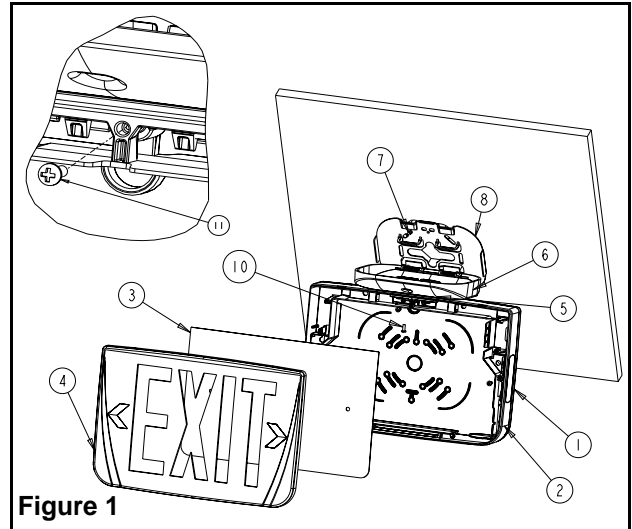
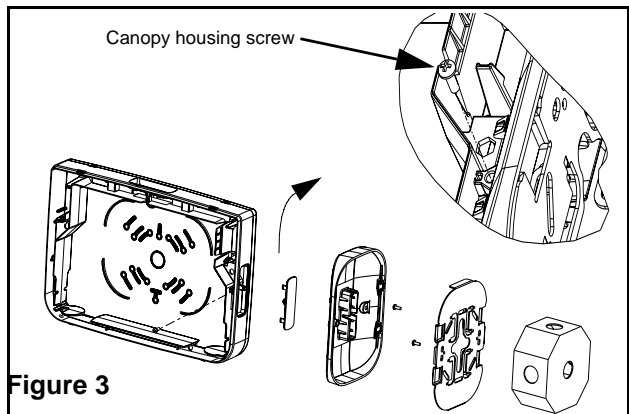

Figure 1
Figure 3
- a. Canopy required. Attach the spider plate to electrical box with the junction box screws. Remove appropriate hole plug. Snap the canopy in to the opening on top or side of frame (See Fig. 3) and feed AC supply leads through side or top opening and then through canopy. Snap canopy on to frame. Screw canopy to frame(11) (recommended for a more secure installation) (See fig. 1 and 3).